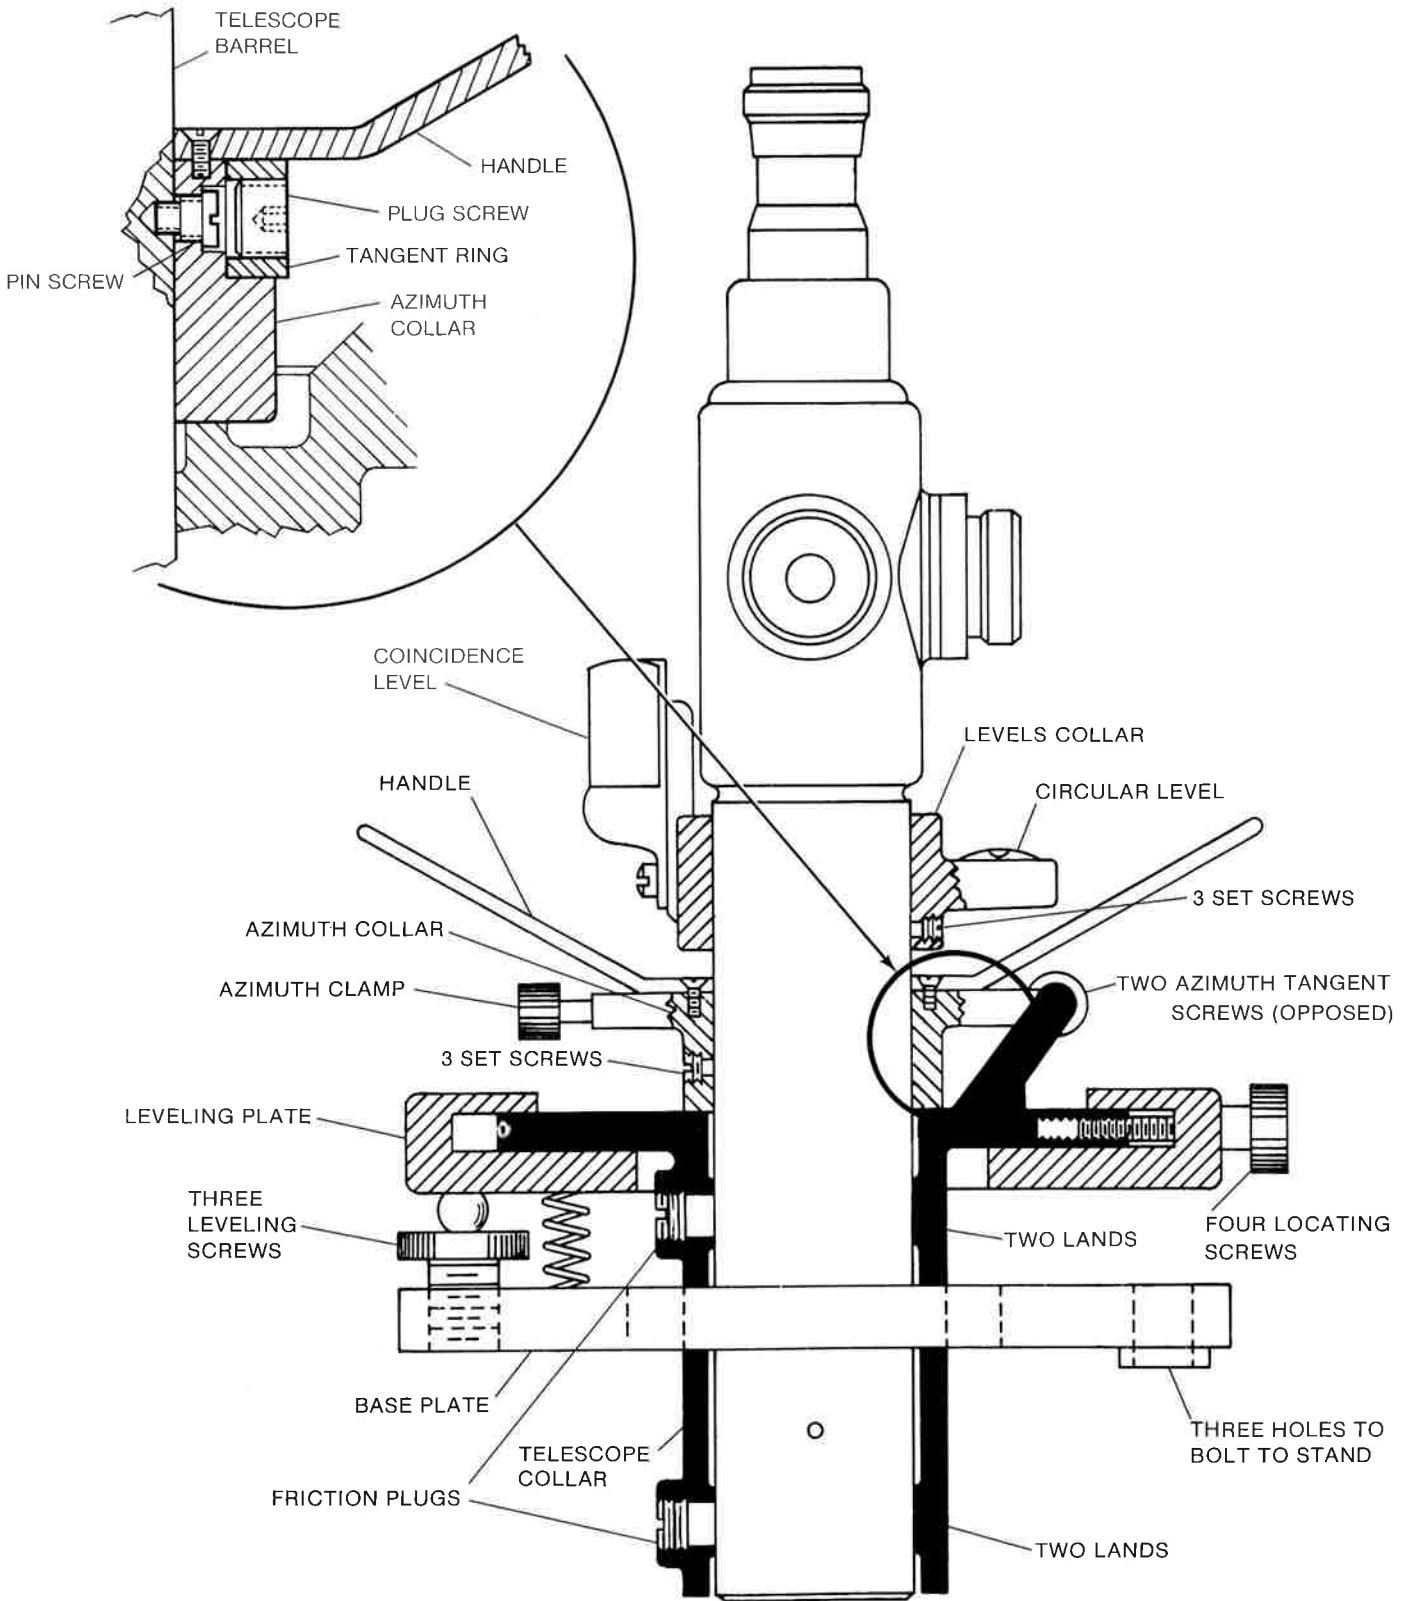

Figure 2-16. Schematic View of 71 5160 Plumb Aligner Bracket with Alignment Telescope in Place
2-56. To Mount a Plumb Aligner Bracket and Alignment Telescope. The Plumb Aligner Bracket is shown schematically in Figure 2-16. To mount the Alignment Telescope for a downward sight:
1. Center the circular level bubble with the leveling screws. (See Figure 2-16.) The bubble will move in the direction of any leveling screw that is turned clockwise.
4. Remove the socket-head plug screw located in the azimuth collar. (See Figure 2-16.)
5. Rotate azimuth clamp (Figure 2-16) until the hole is in line with the hole in the azimuth collar; then, tighten the azimuth lock screw.